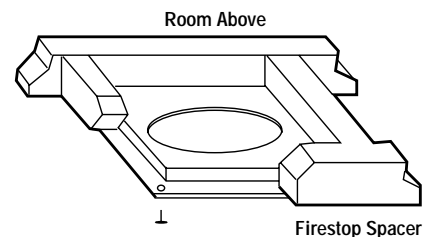

Figure 19
**Step 3.** Position appropriate firestop spacer at ceiling and fasten temporarily with two (2) 8d nails or equivalent. If chimney penetrates ceiling vertically, use flat firestop spacer, Model F8FS-2 for FTF8 system and Model F10FS-2 for the FTF10 system\*. If chimney penetrates ceiling at 30° angle (offset chimney), use 30° firestop spacer, Model F8FS30-2 for FTF8 and Model F10FS30-2 for FTF10 system\*. Use one nail on opposite sides to hold firestop spacer in position. Fasten permanently, using at least two (2) more 8d nails or equivalent, after chimney sections have been assembled through the firestop spacer and after any necessary adjustments have been made. Firestop spacer must be secured by at least four (4) 8d nails or equivalent when completely installed.
**Note:** If there is a room above ceiling level, firestop spacer must be installed on the bottom side of the ceiling. If an attic is above ceiling level, firestop spacer must be installed on top side of ceiling joist (Figures 19 and 20).